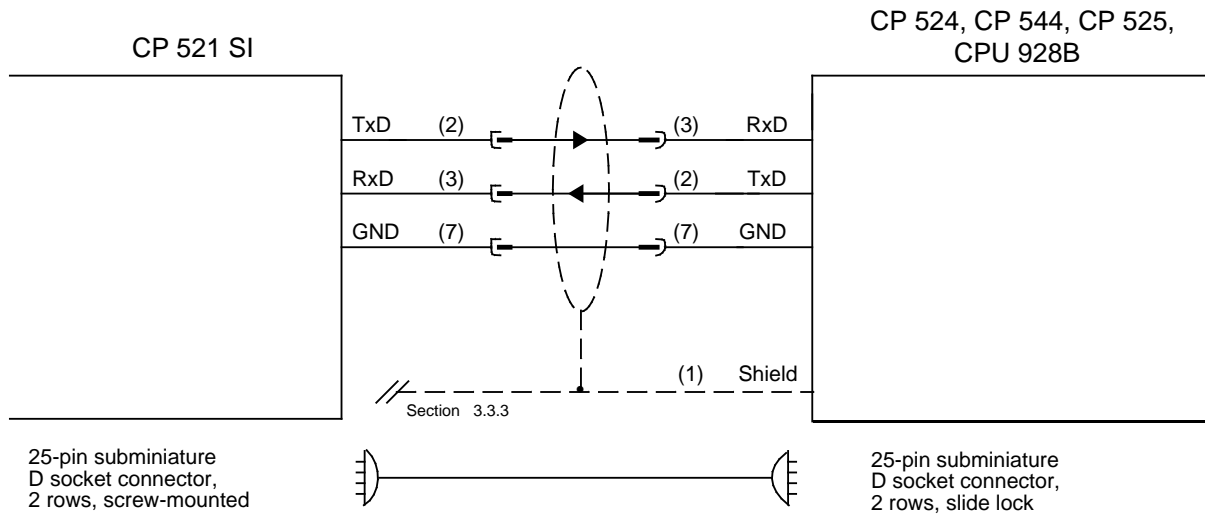

Figure D-2. Terminal Diagram CP 521 SI - CP 524, CP 544, CP 525 and CPU 928B (RS-232C/V.24 Interface without Handshaking)
- Connecting cable No. 9AB4173- ____ - ____ Cable for connecting the CP 521 SI to a **CP 524, CP 544, CP 525, CPU 928B, terminal, RS-232C (V.24)** (Figures D-2 and 7-1)